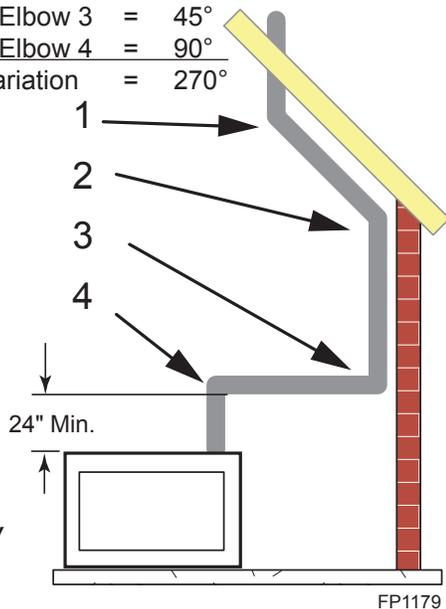

Figure 23 - Maximum Elbow Usage
- Two sets of 45° elbows offsets may be used within the vertical sections. From 0 to a maximum of 8' (2.5 m) of vent pipe can be used between elbows. *Figure 23*
- The maximum angular variation allowed in the system is 270°. *Figure 23*
NOTE: Pay special attention to these installation instructions for required clearances (air space) to combustibles when passing through ceilings, walls, roofs, enclosures, attic rafters, etc. Do not pack air spaces with insulation. Also note maximum vertical rise of the venting system and any maximum horizontal offset limitations. Offsets must fall within the parameters shown in Figures 23 and 24.